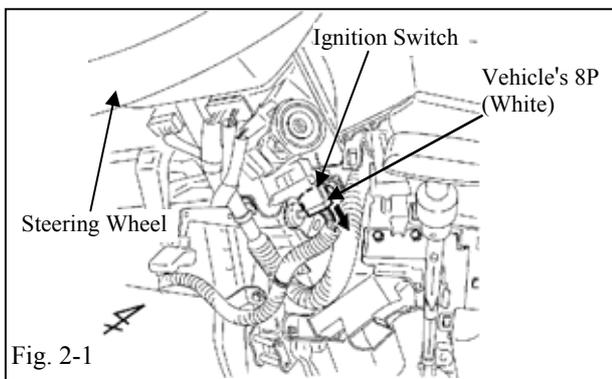

Fig. 2-1
- (a) Locate and disconnect the white 8P connector from the ignition switch in the steering column area. (Fig. 2-1)